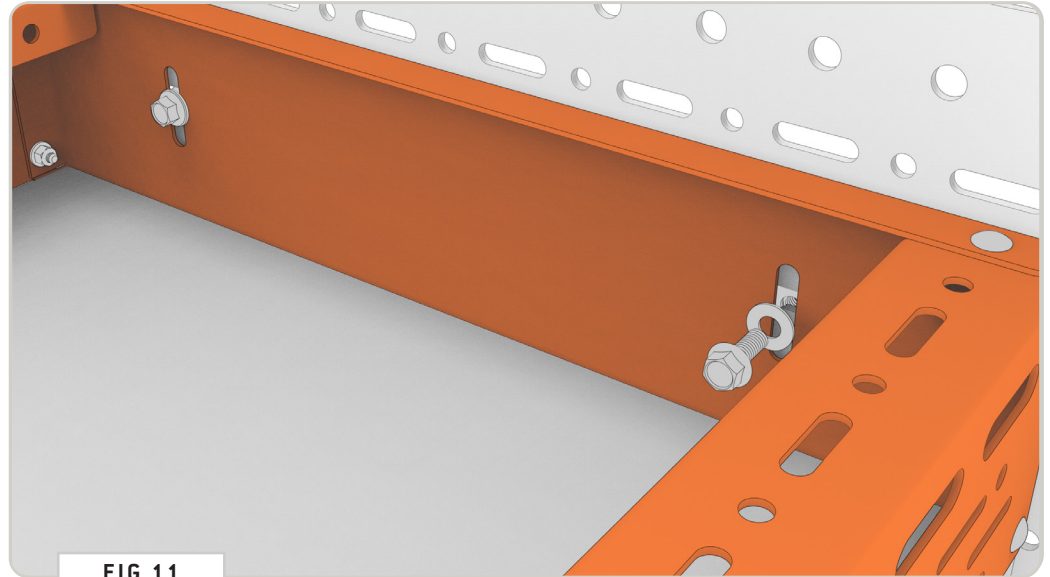

FIG 11
3.4 Insert Bolts Through Mounting Holes (Optional): Insert (1ea) 3/8-16 x 1" Flanged Hex Head Screws to the mounting holes of your *Storage Bike Mount Adapter* (FIG 11).